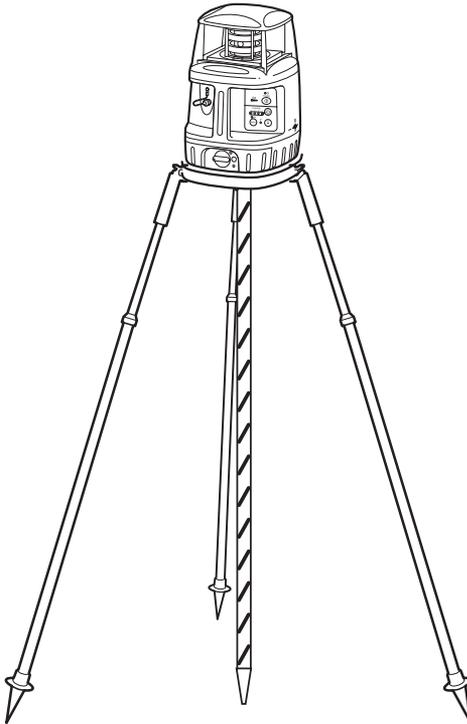

Figure 2-6. Setup PZL-1 Transmitter
2. Attach the transmitter to the tripod (Figure 2-6).